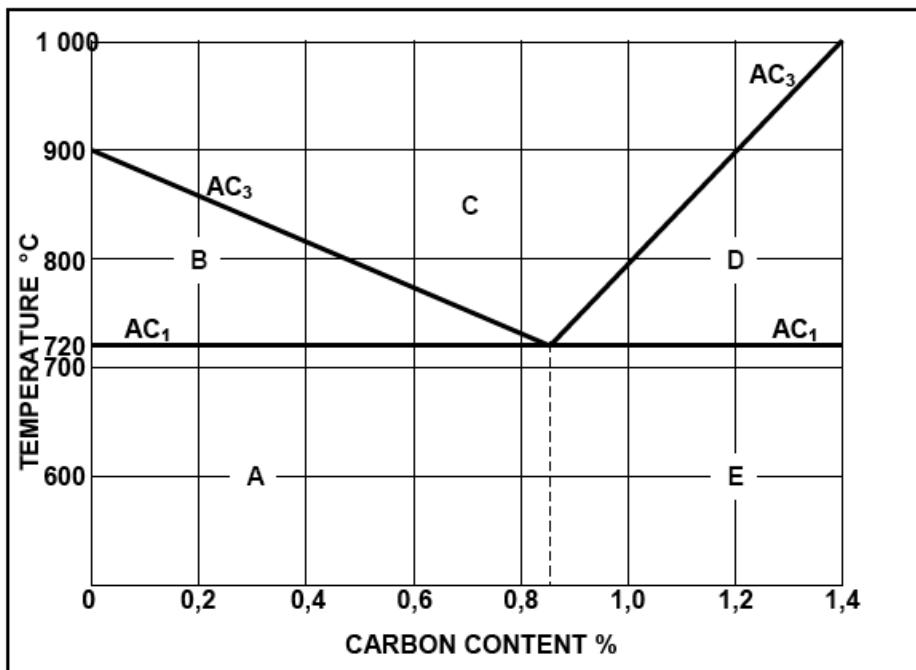

FIGURE 17.1
17.1 FIGURE 17.1 shows the iron-carbon equilibrium diagram used for carbon steels. Answer the questions that follow.